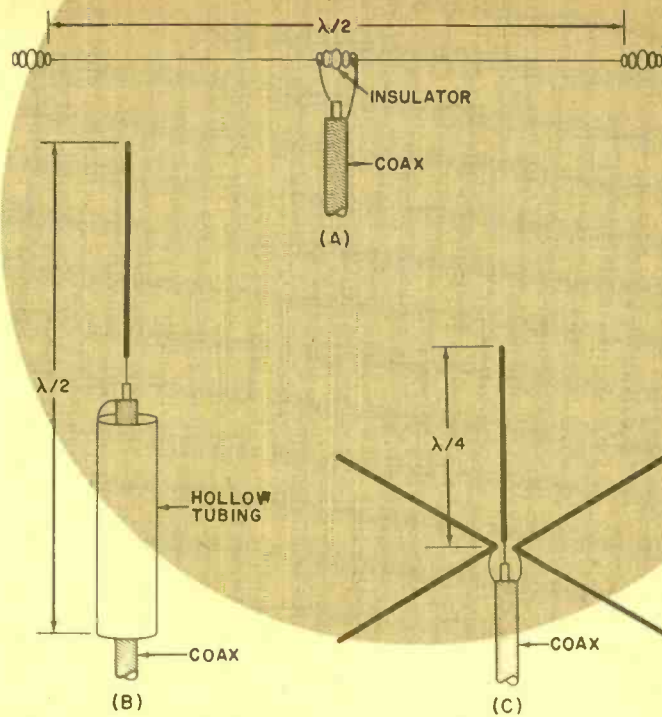

Fig. 4. Three simple antennas: (A) horizontal dipole; (B) vertical (coaxial) dipole; (C) ground plane.
**Simple Antennas.** The two basic antennas that are used in communications are the *dipole* and *ground plane*. Dipoles are formed by splitting a piece of wire one-half wavelength (the distance a radio wave travels in 180° of one cycle), and feeding it with a transmission line. The antenna can be installed in either the horizontal (A) or vertical (B) plane, as shown in Fig. 4. The *coaxial* dipole is often used because it is vertically polarized. One half of the dipole is a rod or wire connected to the inner conductor of the coaxial feedline. The other half is a piece of tubing tied to the outer conductor or "braid" of the coaxial line. Each element of the dipole is one-quarter wavelength ( $\lambda/4$ ) or about 9 feet.